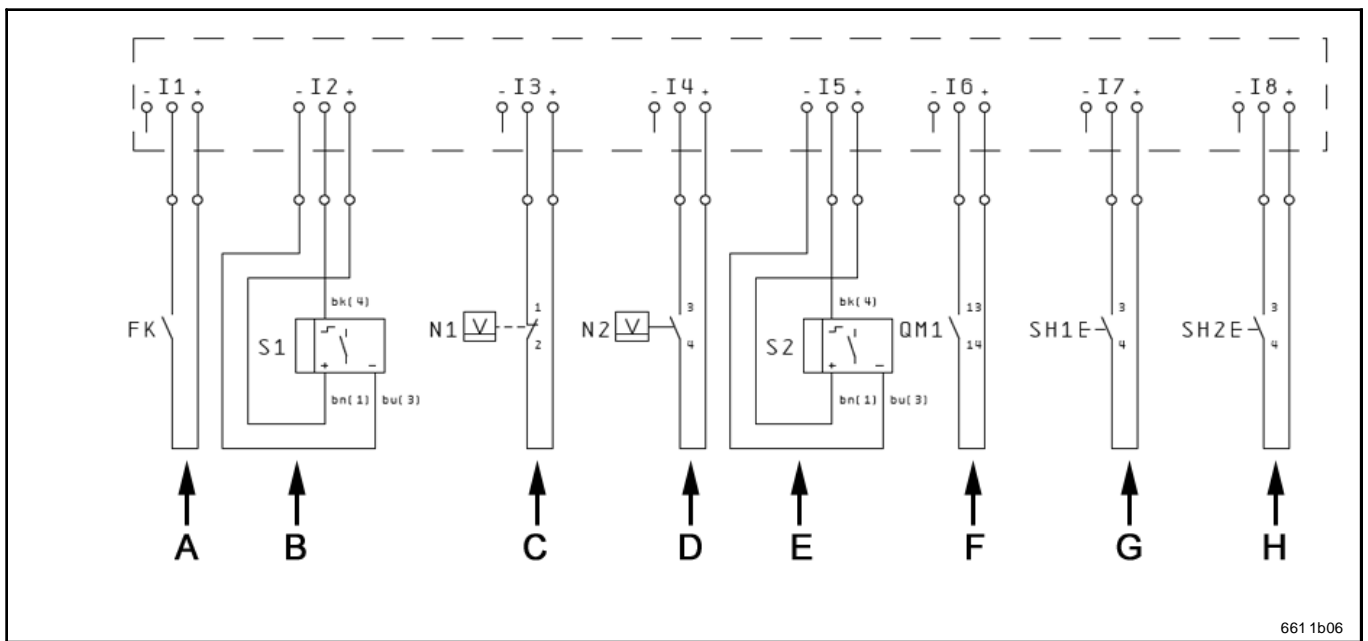

Fig. 12 Signal input connection
1) or, if applicable, externally via switch H (see Fig. 12)